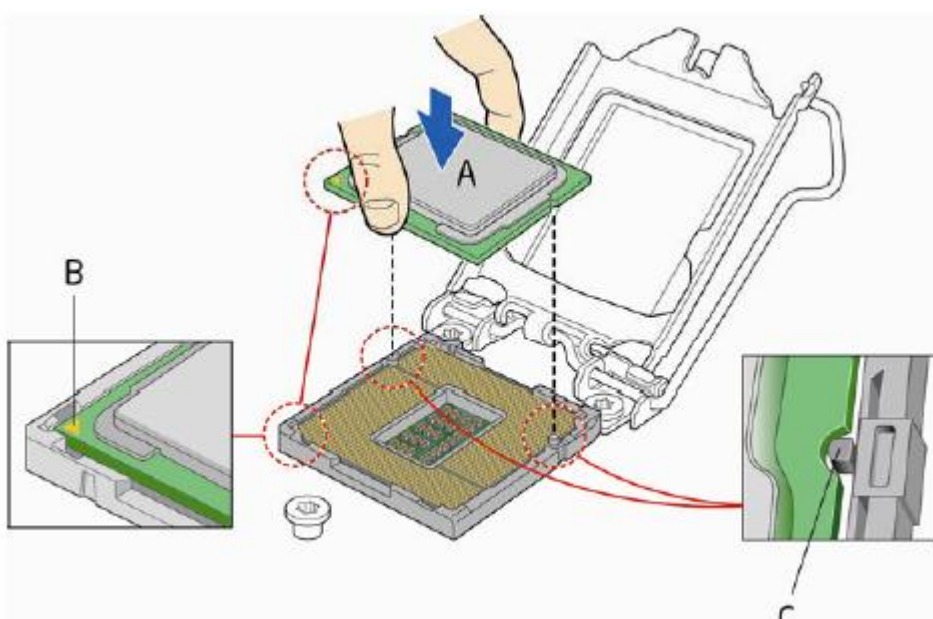

Figure 23: Install the processor
4. Hold the processor with your thumb and index finger oriented as shown in Figure 23 to align your fingers with the socket finger cut-outs. Make sure that the processor Pin 1 indicator (gold triangle) is aligned with the Pin 1 chamfer on the socket (Figure 23, B) and that the notches on the processor align with the posts on the socket (Figure 23, C). Lower the processor straight down without tilting or sliding it in the socket (Figure 23, A).